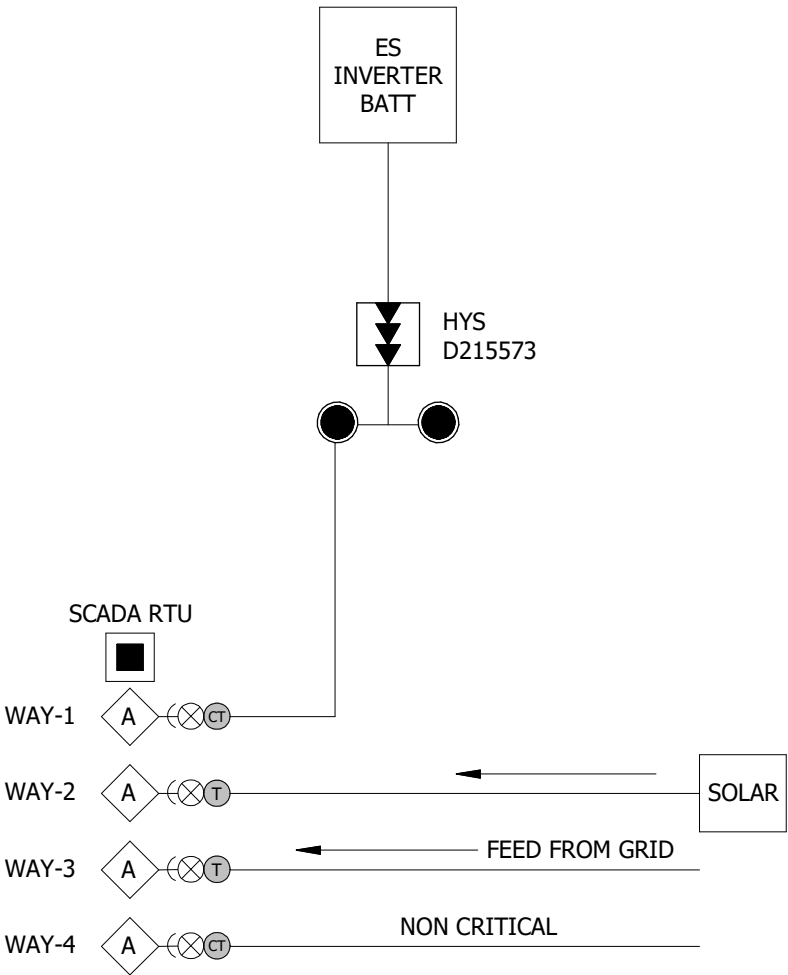

FIGURE 2
- D CONFIGURATION 02 (TRADITIONAL SCADA TRAYER), SEE FIGURE 2: